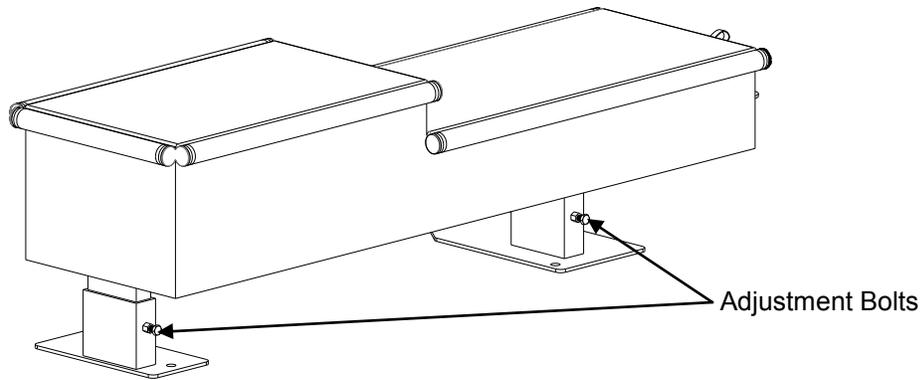
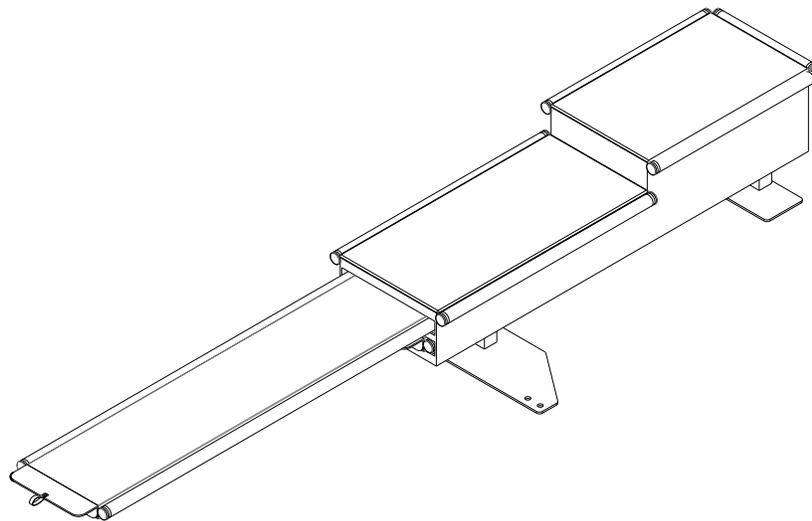

Figure 15
Figure 16
- Install Support Grab Rail by removing pipe covers on EZ Port MAX and securing the base of the support grab rail with four (4) bolts.
- Secure Transfer Bench with two (2) bolts into the tee-nuts on the EZ Dock dock section and two (2) lag bolts directly into EZ Dock couplers.
- After the transfer bench and support grab rail have been mounted the bench boards need to slid out to ensure that they are level and rest of the opposing bench tray support bar on the support grab handrail. The height of the bench can be adjusted (see figure 15) by loosening and sliding the bench unit up or down. Once the bench is in the desired position tighten the height adjustment nuts. The bench trays should slide out and rest on the grab support rail easily.
The EZ Dock Accessible Transfer System has numerous way to adjust the height of the bench to satisfy virtually any application. The entire bench can adjust vertically by simply loosening two bolts (Figure 15). Figure 16 utilizes the upper transfer plank for taller freeboard watercrafts such as a canoe. Figure 17 utilizes the lower transfer plank for shorter freeboard watercrafts such as a kayak.
- Use a transfer pump to pump water into dock through the drilled hole. Add enough water to achieve the freeboard height shown in Figure 16. Top of dock should be even with top of the EZ Launch. **Do not place any weight on either the dock or the port while measuring freeboard heights.**